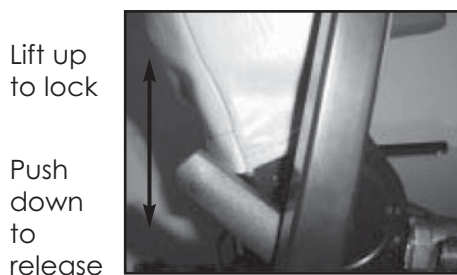

Figure 4W
To recline the back, determine which type of seat lever you have. See Figures 4W and 4X below.
2. **If your recline lever looks like FIGURE 4W** – PUSH DOWN on the lever to release the latch. With the assistance of a caregiver, position the seatback in a comfortable position. LIFT UP on the lever to lock the seatback in position.